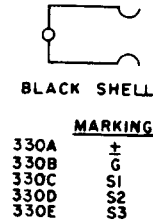

Fig. 6—330-Type Plug
2.05 330A, B, C, D, and E: The 330-type plugs (Fig. 6) are metal clips with a shell of black insulating material. The plugs are used with the W5B cord for connecting to the unwired ends of the terminals on 100- or similar-type terminal strips.